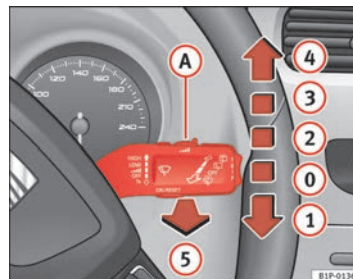

Fig. 81 Windscreen wiper and windscreen wash lever
The windscreen wiper lever => fig. 81 has the following positions: ▶
- The next speed down will automatically be selected if wiper speed **2** ⇒ page 127, fig. 81 or **3** is selected when the vehicle stops. The set speed will be resumed when the vehicle starts again